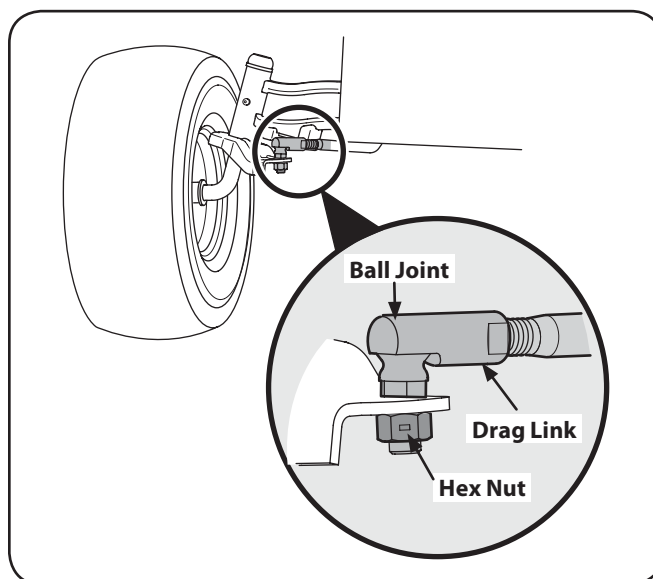

Figure 6-7
1. Remove the hex nut on the top of ball joint. See Figure 6-7.